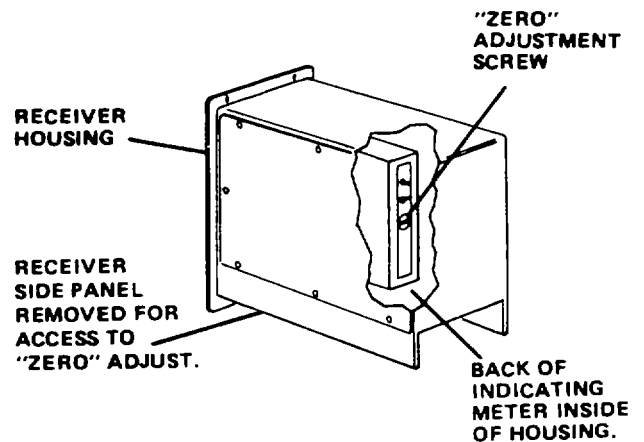
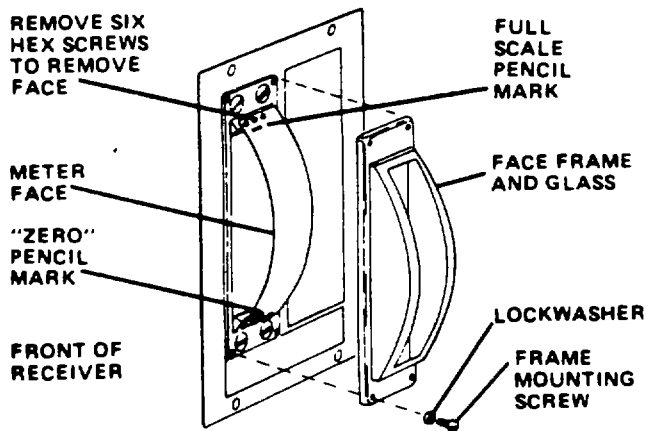

Figure 2-1. Receiver Panel Zero Adjustment
Figure 2-2. Receiver Panel Face Detail.
Figure 2-1 shows the location of the ZERO adjustment screw on an edgeview meter installed in a receiver module. Receiver panel edgeview meters have no receiver housing as indicated on the illustration, but do have the ZERO adjustment screw in the same location. If there is no O-mark, remove the four mounting screws securing the face frame and glass to the meter (Figure 2-2) and make a pencil mark at the location of the meter needle.
- e. Using a screwdriver, adjust the ZERO adjustment screw at the rear of the meter (Figure 2-1) to its mid-position (if meter has no mark) or to the setting that causes deflection to the O-mark (if meter has one). If there is no O-mark, remove the four frame mounting screws and lockwashers securing the face frame and glass to the meter (Figure 2-2) and make a pencil mark at the location of the meter needle.